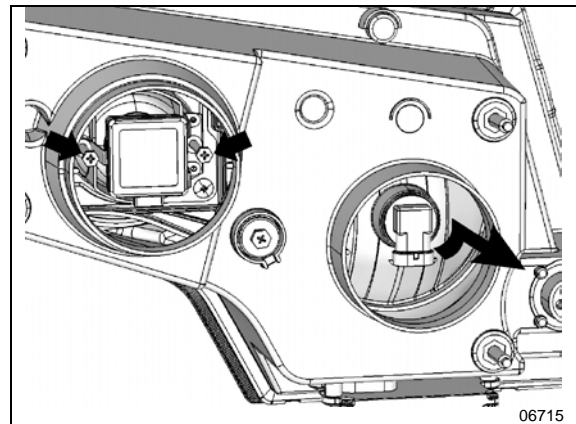

FIGURE 75: HEADLAMPS ASSEMBLY REAR VIEW
5. **HALOGEN:** turn the bulb base counterclockwise. **XENON:** Unscrew the Phillips head screws indicated by arrows, pull the retainer and bulb out (**FIGURE 75**).